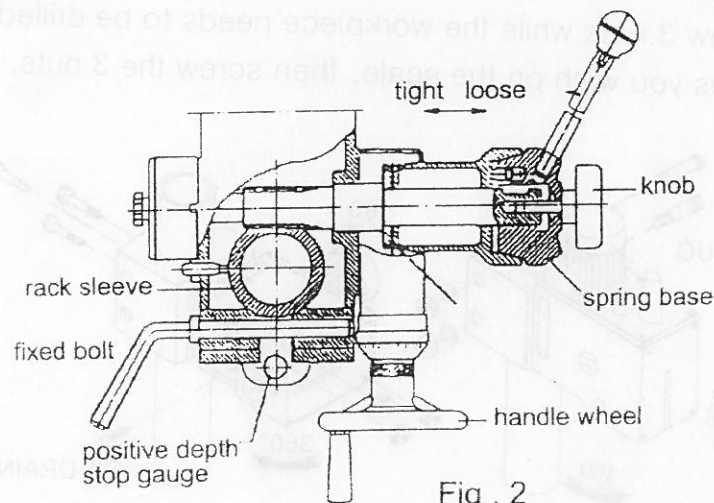

Fig . 2
(1)Preparing for Drilling(see fig.2)(Except addition power feed system).